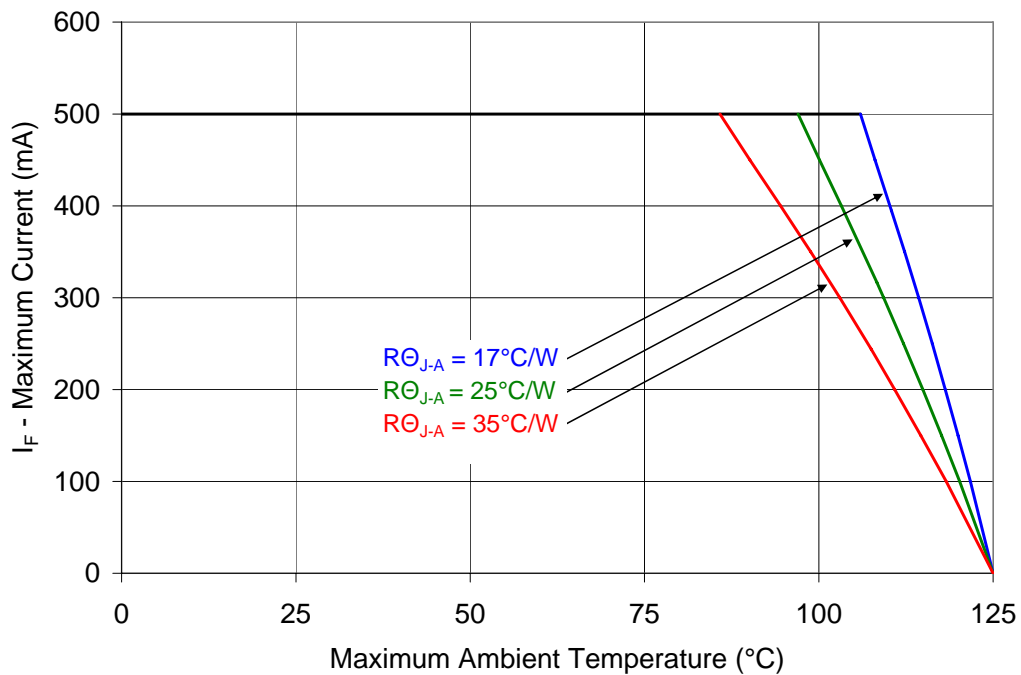

Figure 10: Maximum forward current vs. ambient temperature based on $T_{J(MAX)} = 125^\circ\text{C}$.
- Maximum DC forward current is determined by the overall thermal resistance and ambient temperature. Follow the curves in Figure 10 for current derating.